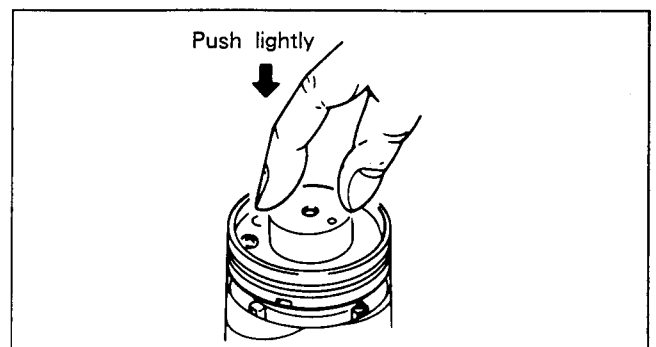

Fig. 7-49.
- 3) Remove jig **C** and push the rotary upper drum in by hand, lightly. (See Fig. 7-49.) When it is not inserted all the way, tighten the two hexagonal bolt screws **1** alternately to temporarily fix it.